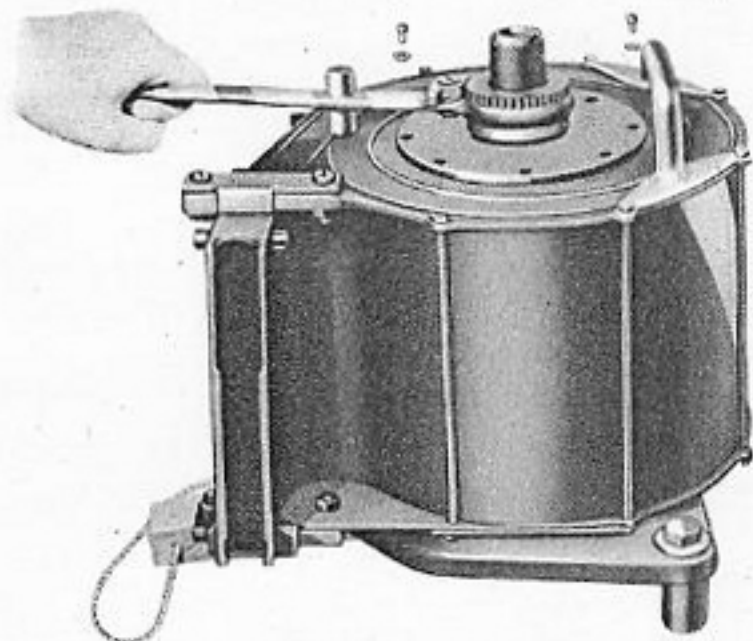

Figure 60. Holding Spring Tension with Lever while Installing Cover Plate Screws.
10. Spring Tension. Slip the magazine lever on the spring axis as shown in Fig. 60 and turn the loading lever clockwise from one to one and a quarter turns until the letter "A" stamped on the cover plate is in line with the letter "A" on the magazine front plate.